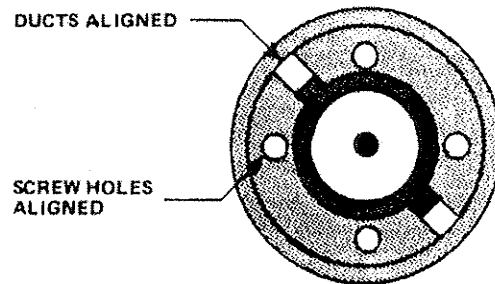

Figure 5 Alignment of Indium Gasket and Adapter
8. Align the ducts and the screw holes in the adapter with those in the first stage heat station and the gasket. See Figure 5.